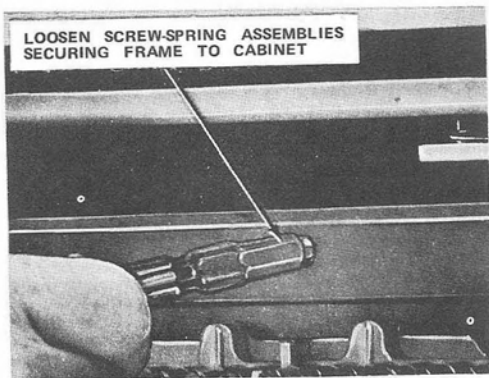

Fig. 2—Loosening Screw-Spring Assemblies
3. Using a 216 tool, loosen the screw-spring assemblies (Fig. 2) securing the frame to the cabinet.